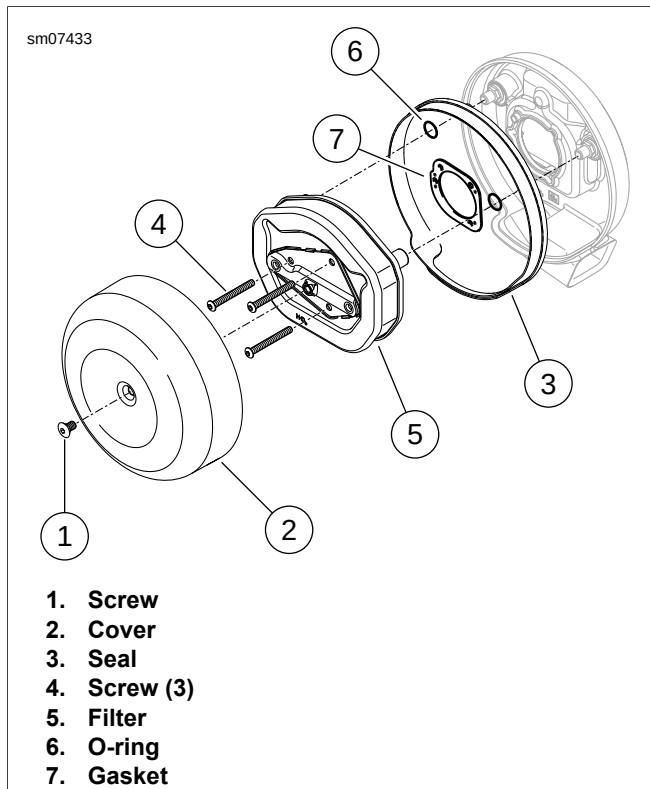

Figure 1-10. Air Filter Element: XL 1200V
1. See Figure 1-10. Remove the fastener (1) from the air cleaner cover (2).
2. Remove the cover from the backplate. Remove air cleaner seal (3) from the cover.
3. Remove three fasteners (4). Remove the air filter (5) from the backplate.
3. See Figure 1-10. Apply a drop of LOCTITE 243 MEDIUM STRENGTH THREADLOCKER AND SEALANT (blue) to each of three air filter fasteners (4).
5. Fit air cleaner seal (3) onto air cleaner cover (2). Verify alignment around cover edge.